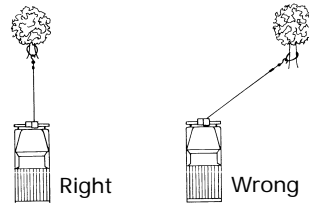

Figure 6
13. AVOID CONTINUOUS PULLS FROM EXTREME ANGLES as this will cause the wire rope to pile up at one end of the drum (Figure 6). This can jam the wire rope in the winch, causing damage to the rope or the winch.